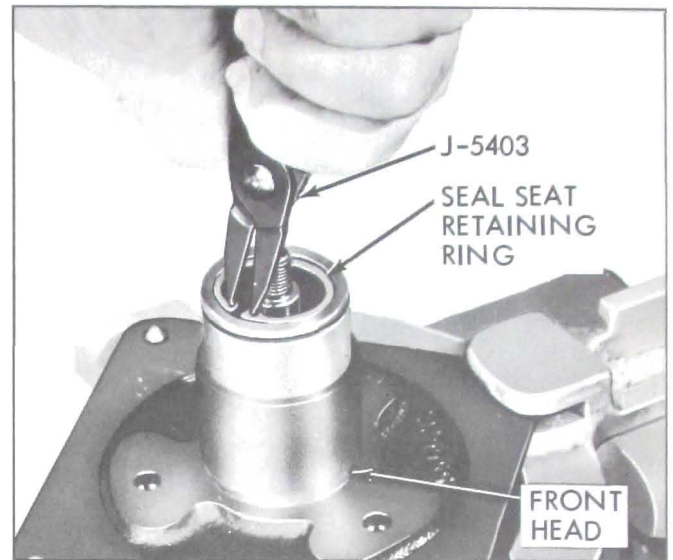

Figure 11-87—Removing Shaft Seal Seat Retaining Ring
2. Remove shaft seal seat retaining ring from inside front head, using J-5403, No. 21 Truarc pliers. See Figure 11-87.